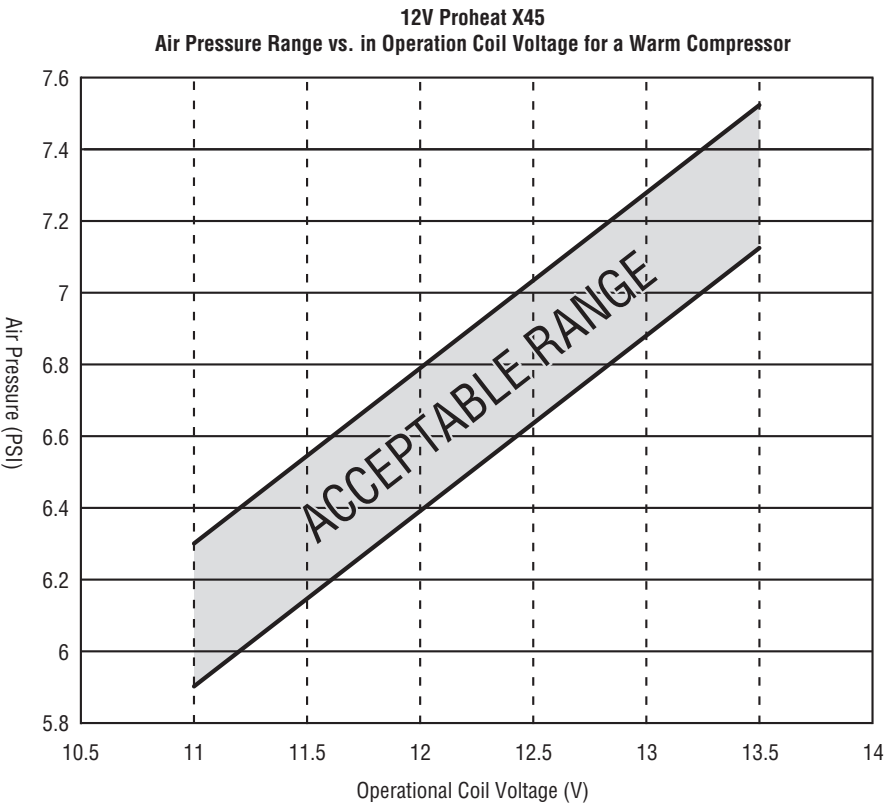
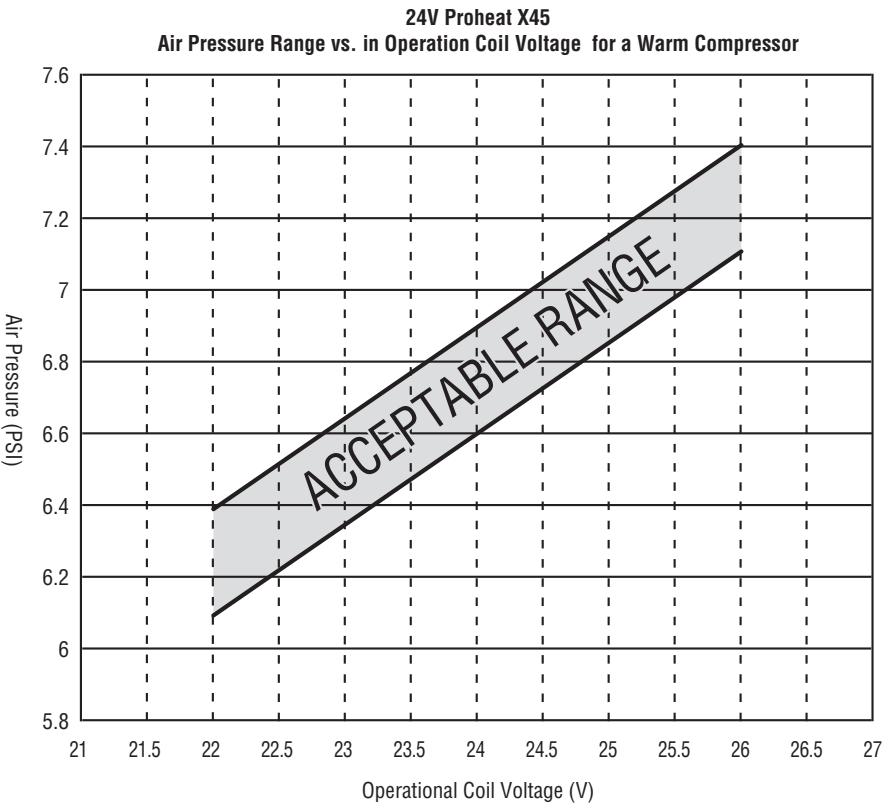

Figure 5-8 12V System Air Pressure Chart
Figure 5-9 24V System Air Pressure Chart
- f) With the heater running in full output (flame on and ignition is off) read the voltage and refer to the 12 or 24 volt chart (Figure 5-8 and Figure 5-9) for the correct Air Pressure Reading.
- g) The reading must be within the range of the shaded area as shown in Figure 5-8 and Figure 5-9.